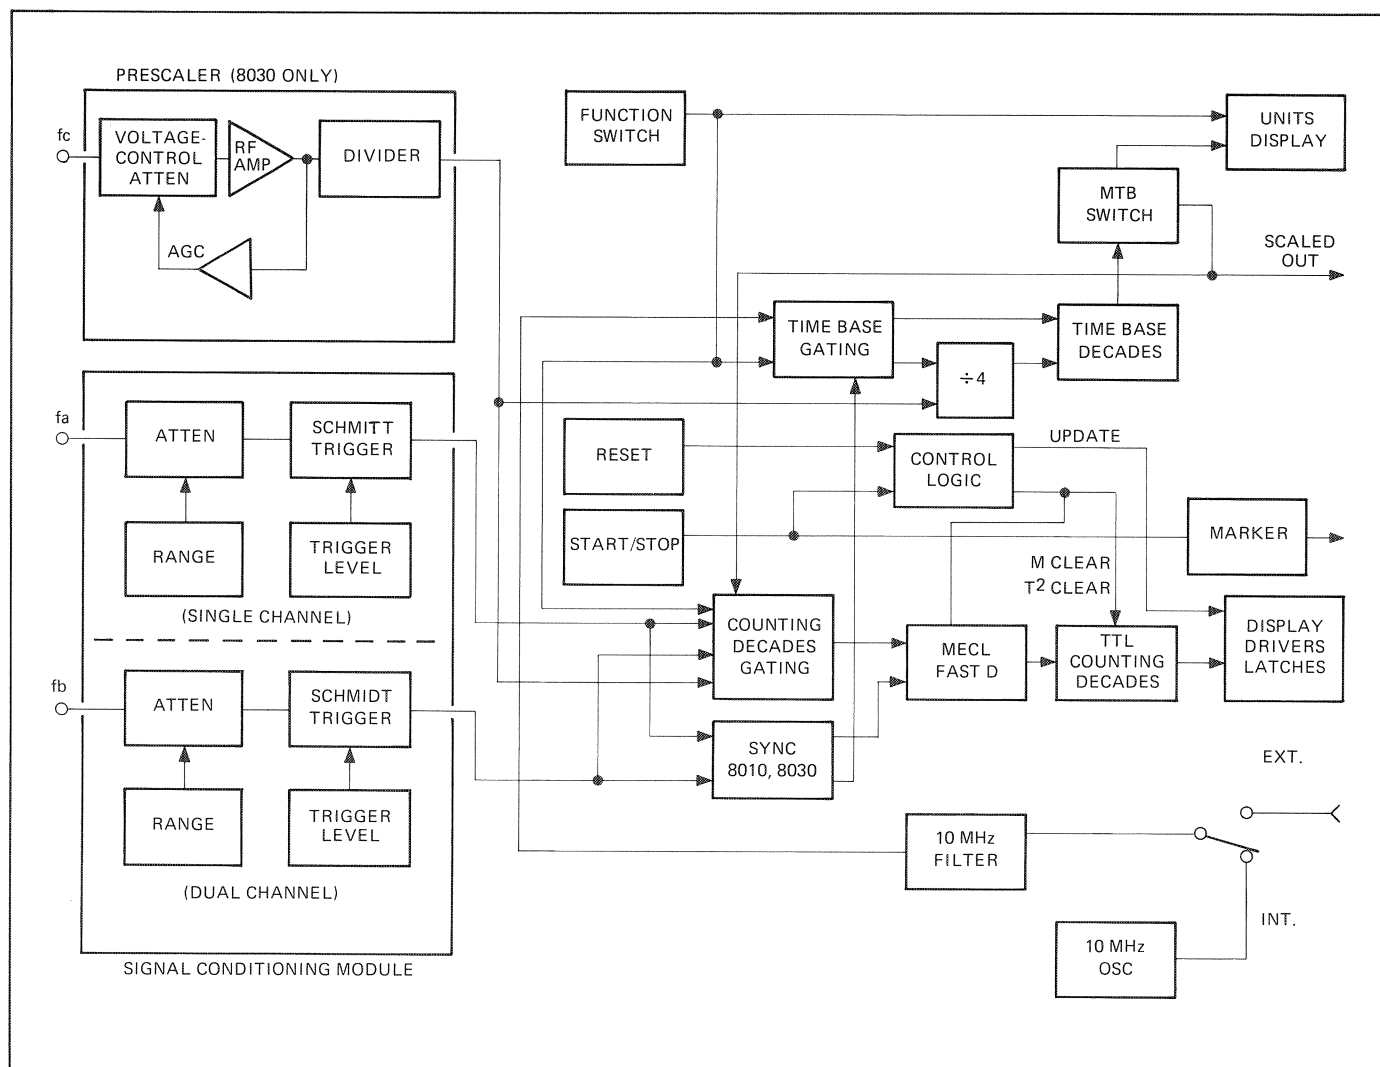

Figure 1.2 - Block Diagram
1.36 A basic block diagram of the instrument is shown in figure 1.2. Input channels A and B are identical through the attenuator and signal conditioning amplifiers. The input is routed through the BNC input connectors and through the AC/DC coupling switch to the attenuator. The attenuator has three positions: X1 range, X10 range, and X100 range. The attenuator output is applied to the signal conditioning amplifier through an overload circuit that protects the circuitry if an "overload" voltage is applied.
1.42 Signals to the Control Logic Section are generated by logic in the following blocks in figure 1.2: Multiplier/Timebase (M/TB) Decades and Start/Stop Logic. The M/TB Decades consist of eight TTL decade counters which, together with Start/Stop Logic, inputs from the Steering Logic, M/TB switches on front panel, and the function switch, control operation of the Control Logic. The circuits combine to perform the functions listed in table 1.3 for each operating mode. The M/TB Decades supply a scaled output to a rear panel connector in the Totalize mode. The output is  $1/10N \times$  input frequency, where N is the Multiplier setting on the front panel.